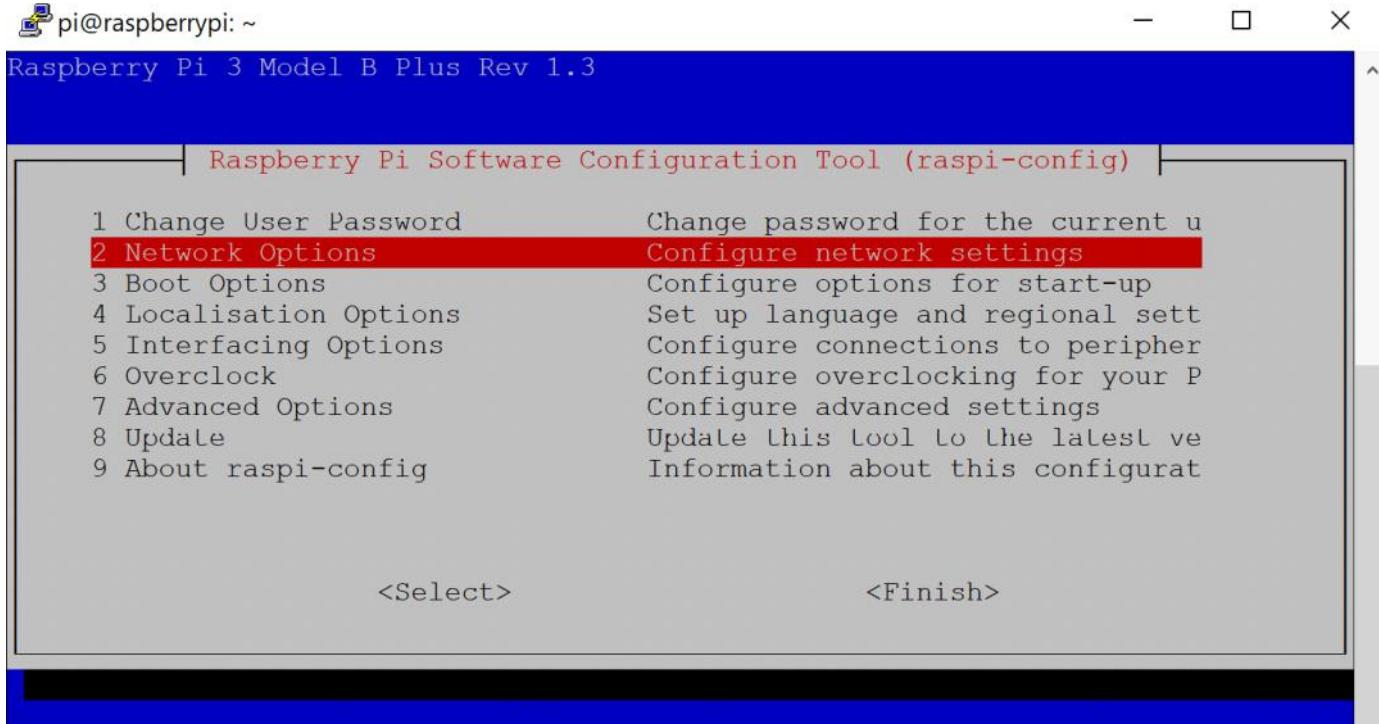

Figure 4.6 – Network options
1. In **raspi-config**, select **Network Options**, shown in *Figure 4.6*. Use the arrow keys on your keyboard to highlight and press *Enter* to select the entry: